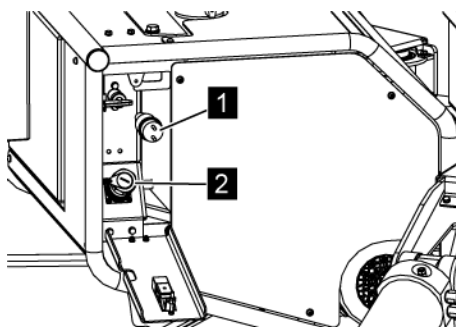

Fig. 46: Switching on the control panel
1. ➔ Make sure that the cable remote control is not connected and the bypass plug connector (Fig. 46/2) is locked in position.
2. → Connect the plug connector (Fig. 46/1) with an extension cable. In the process, adhere to the maximum cable lengths (↪ 'Cable lengths' on page 42).